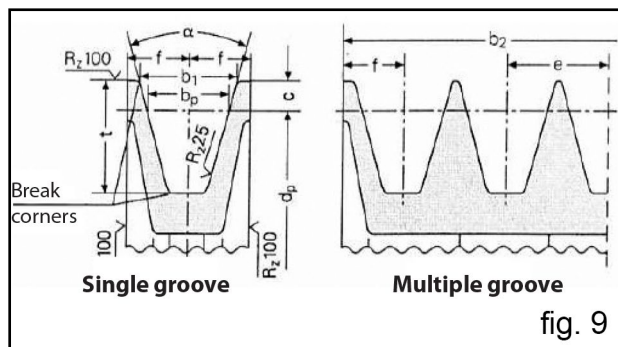

fig. 9
A) Use pulleys with V-belts with the size of the groove required/recommended by the manufacturer of belt used. In the absence of directions, follow fig. 9 and the table in fig. 10.